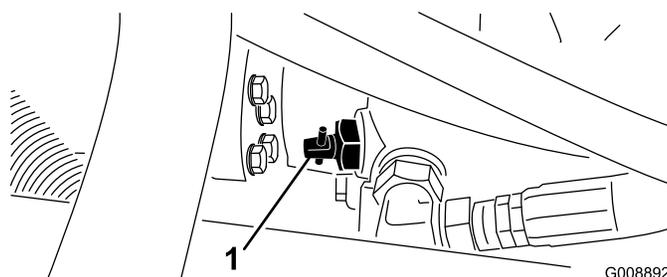

Figure 28
1. Locate the bypass valve on the pump (Figure 28) and rotate it 90°.